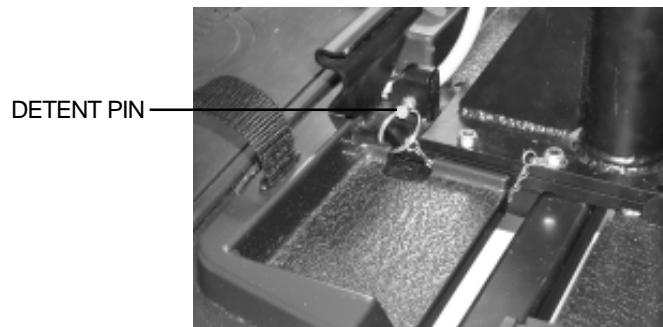

FIGURE 16. DETENT PIN REMOVAL
9. Remove the detent pin that secures the front and rear sections together. See figure 16.